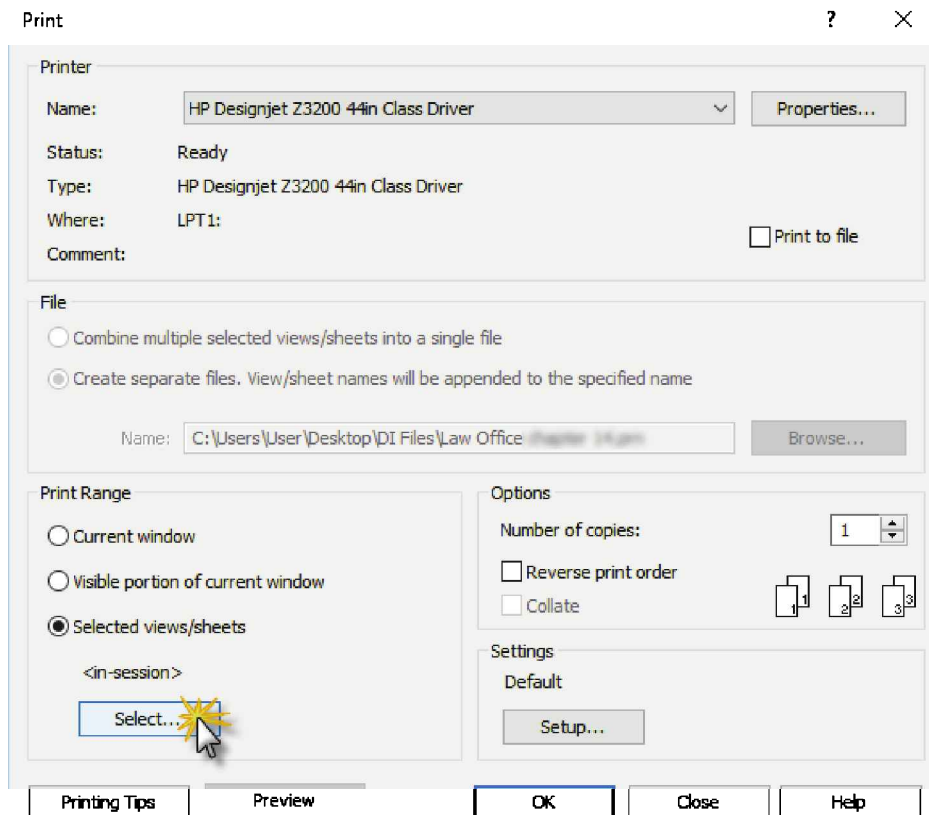

FIGURE 16-3.1 Print dialog box
3. In the *Print Range* area, click the option **Selected views/sheets** (Figure 16-3.1).